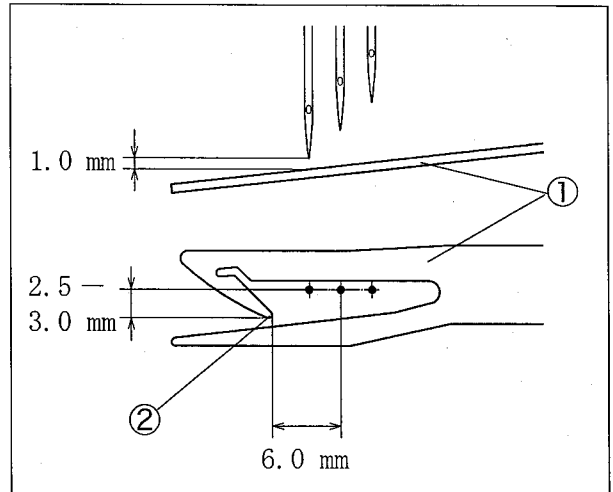

Fig. 29
- (1) Raise the needles at the heighest points.
- (2) Loosen the screw ③ so that the hook ② of the wiper ① passes 2.5 - 3.0 mm from front of the center of the needle. (Figs. 29 and 30)
- (3) Loosen the screw ④ to pass the wiper ① 1.0 mm below the left needle. (Figs. 29 and 30)
Loosen the screw ⑤ of the wiper holder to adjust it. (Figs. 29 and 30)